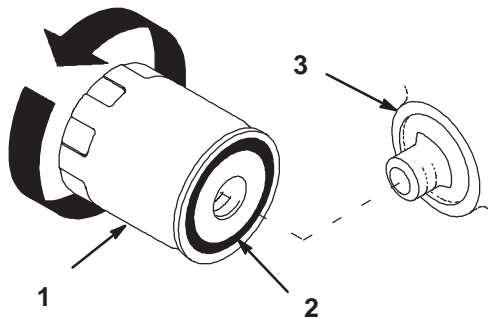

Figure 39
2. Remove the old filter and wipe the filter adapter (Fig. 39) gasket surface.
4. Apply a thin coat of new oil to the rubber gasket on the replacement filter (Fig. 39).
5. Install the replacement oil filter to the filter adapter. Turn the oil filter clockwise until the rubber gasket contacts the filter adapter, then tighten the filter an additional 1/2 turn (Fig. 39).